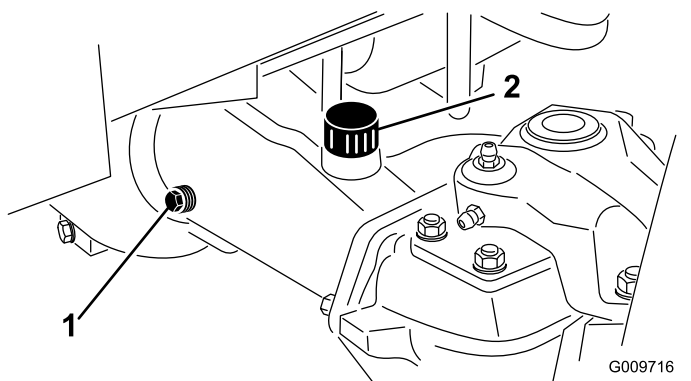

Figure 88
4. Remove the 2 axle housing check plugs and the fill plug to ease in draining of the oil (Figure 88).